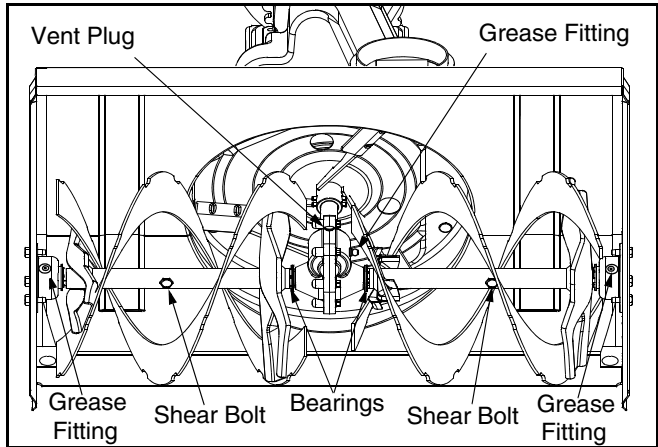

Figure 14
- At least once a season, remove the shear bolts from the auger shaft and spray lubricant inside the shaft. See Figure 14.
- Grease fittings can be found at either end of the auger shaft. Lubricate with a grease gun once a season. See Figure 14.
The auger gear case is equipped with a grease fitting. Lubricate with Shell Alvania lead-free grease once a season (order part number 737-0168). See Figure 14.
IMPORTANT: To relieve pressure, remove the vent plug before lubricating the gear case. See Figure 14. Failure